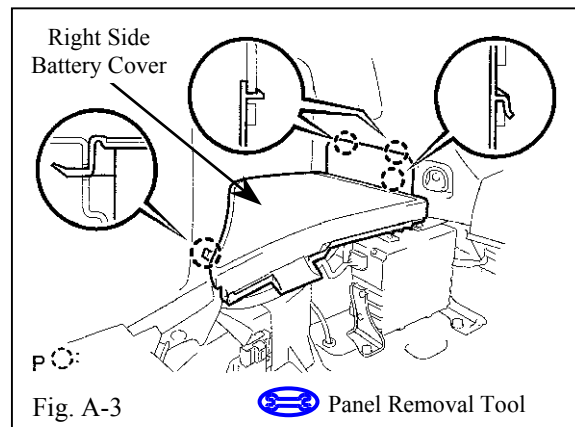

Fig. A-3
3. Remove the right (passenger) side battery cover (rear floor board no. 3) including vertical trim cover by separating the four (4) claw fittings. (Fig. A-3)